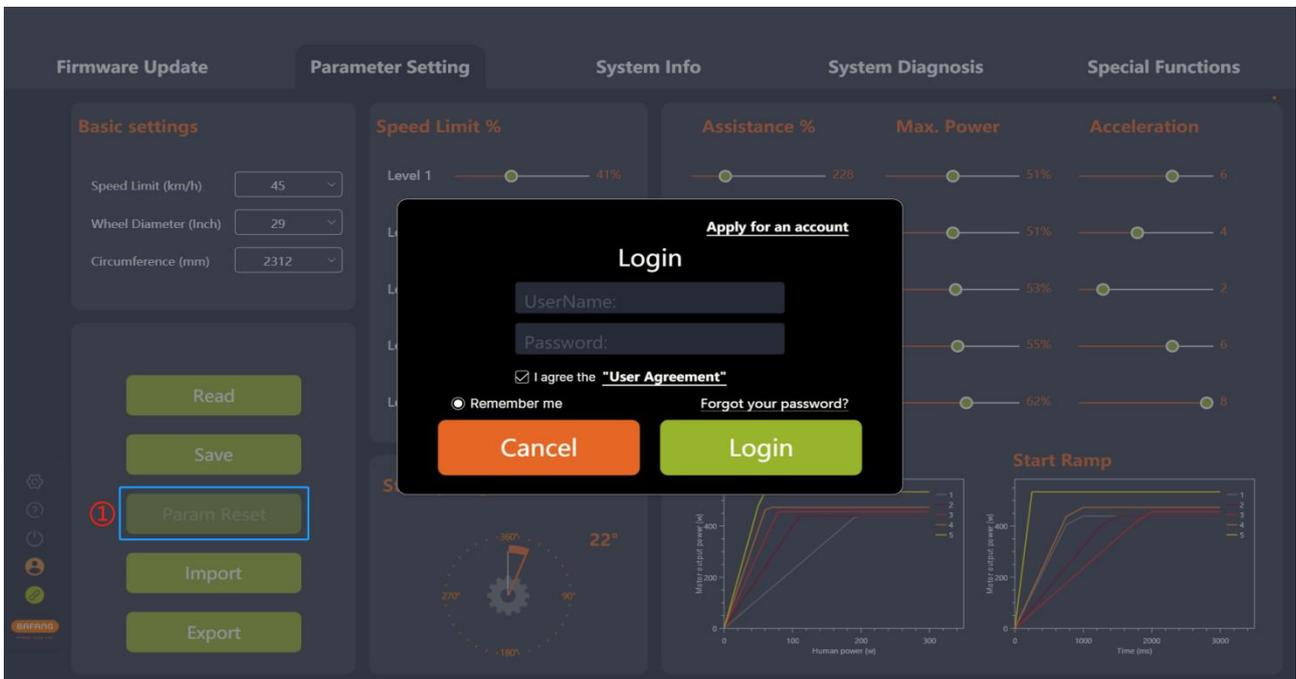

Fig. 5-15 Param reset
- (1) Check whether the BESST Tool is well connected to the controller, and click "Param Reset". If you are not logged in, the "Login" interface will pop up, prompting you to log in (Fig.5-15).
- (2) The parameters are reset to default values.